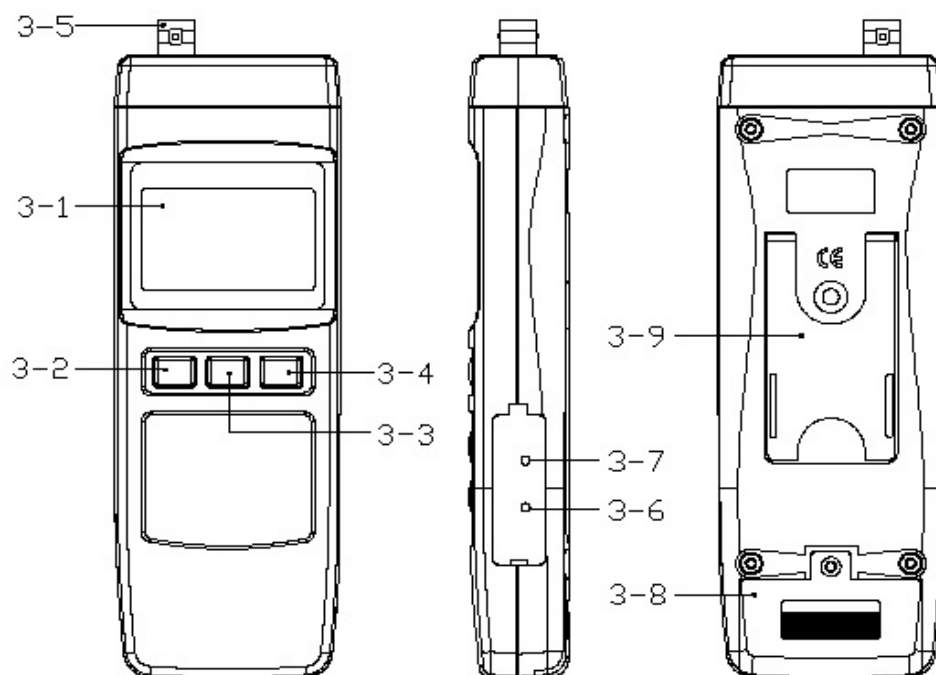

Fig. 1
- 2) Power on the instrument by pressing the " Power ON Button " (3-2, Fig. 1).
- 3) Adjust " PH7 Adjust VR " (3-7, Fig. 1) until the display reading values same as 7.00 exactly.
Adjust " PH4 Adjust VR " (3-6, Fig. 1) until the display reading values same as 4.00 exactly.
- 3) Adjust " PH7 Adjust VR " (3-7, Fig. 1) until the display reading values same as the values of above standard buffer solution exactly.
- 1) Connect the combination PH ELECTRODE to the " BNC socket " (3-5, Fig. 1).
- 4) During the measurement, pressing the " Hold Button " (3-4, Fig. 1) will freeze the display value, at the same time the LCD will show the " HOLD " indicator.
- 2) To replace the battery, remove the " Battery Cover " (3-6, Fig. 1) on the rear cabinet.